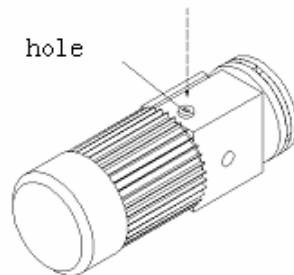

Fig2-15
- ①. Check whether the fastening pieces are loosened
- ② Charge liquid lubricating oil into decelerator and observe whether the oil path is smooth (See Fig2-15)